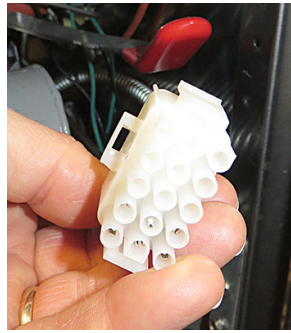

Figure 6
8. Route the other end of the conduit harness, along the inside of the fryer, to the front of the fryer (see Figure 6).